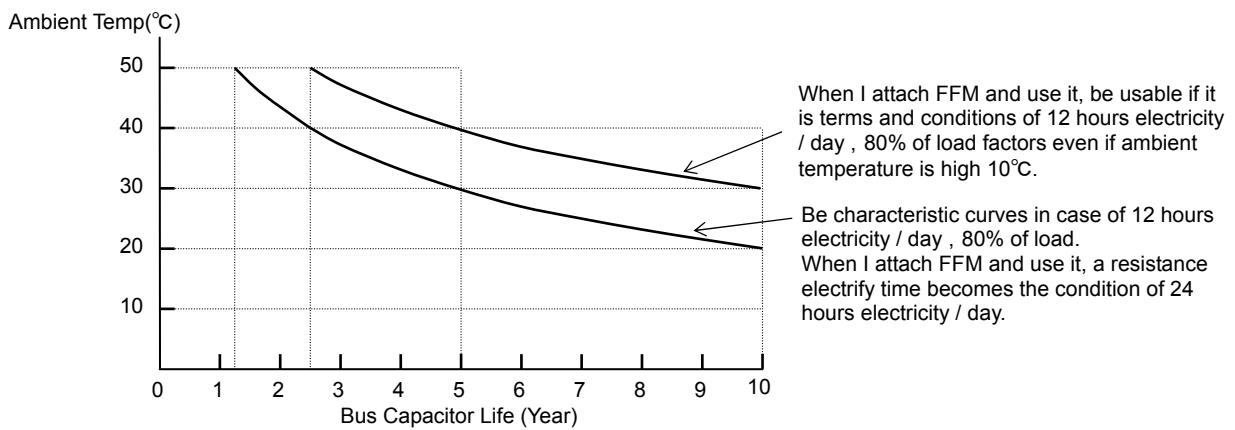

Figure 8. Curve of Bus Capacitor Life
- Bus capacitor life doubles approximately when I attach optional FFM to an applicable model. The detail refers to figure 8